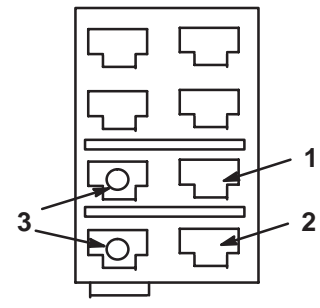

Figure 8
- 19. Plug the blue and white wires into the headlight switch connector at locations shown in figure 8.